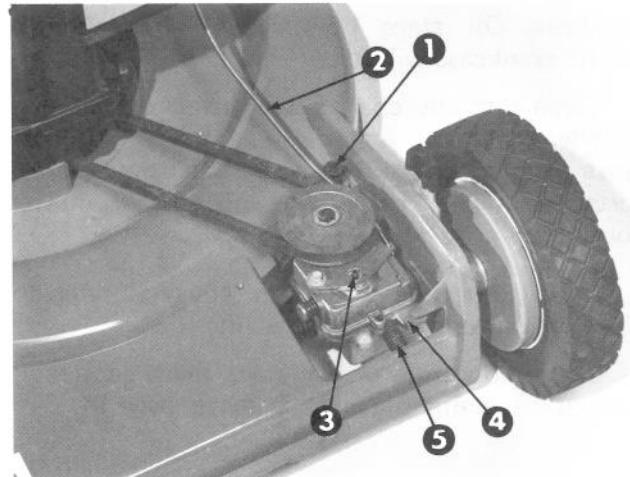

Figure 34
3. Loosen cable retaining screw until control cable is free to slide (Fig. 34).
5. Push shifter arm backward until it stops and hold shifter in place. Pull control cable and wire backward to remove all slack, and secure cable in place by tightening the cable retaining screw (Fig. 34).